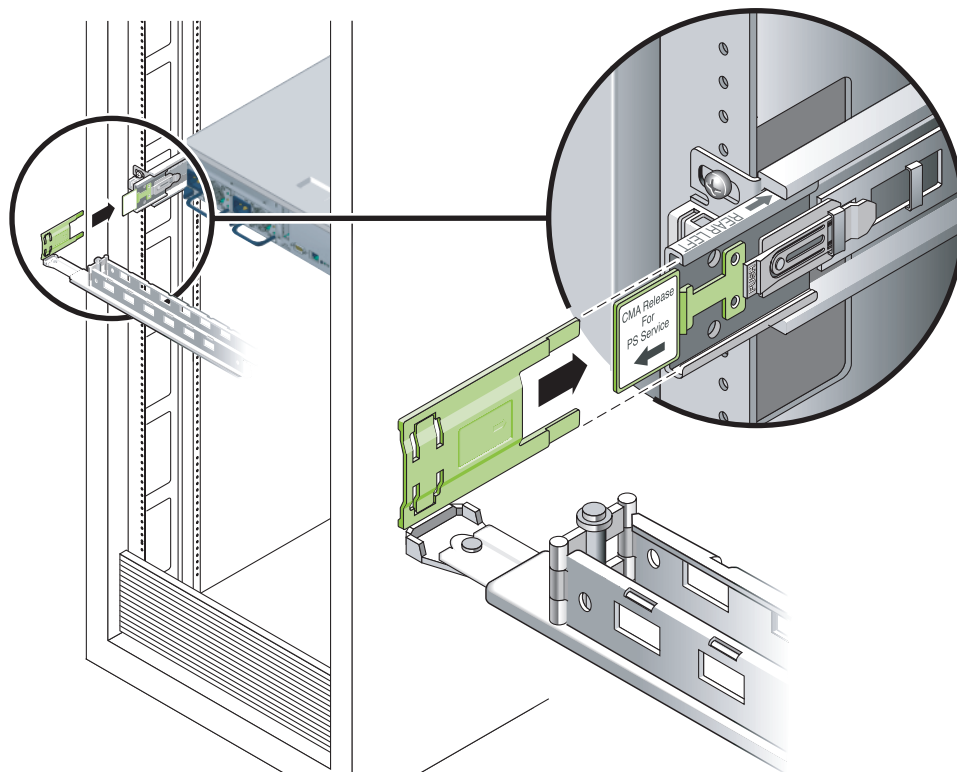

FIGURE 3-33 Mounting the Left Side of the Rail
4. Insert the hinged plastic connector at the left side of the CMA fully into the CMA rail extension (FIGURE 3-33).